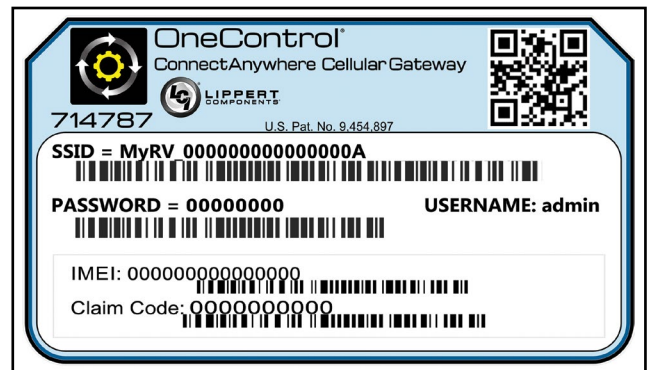

Fig.2
1. Locate the **Claim Code**, **SSID**, **PASSWORD**, **IMEI** and **Claim Code** information printed on the OneControl Cellular Gateway label (Fig.2). Copy the number for later use.